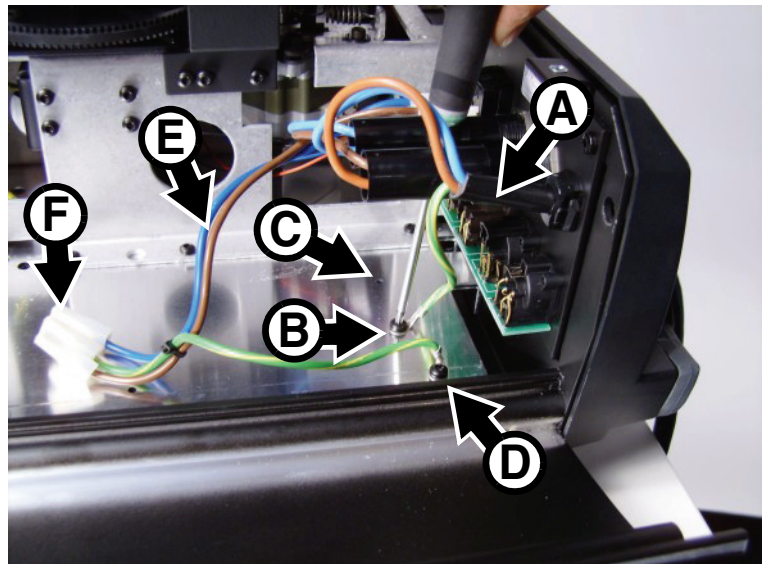
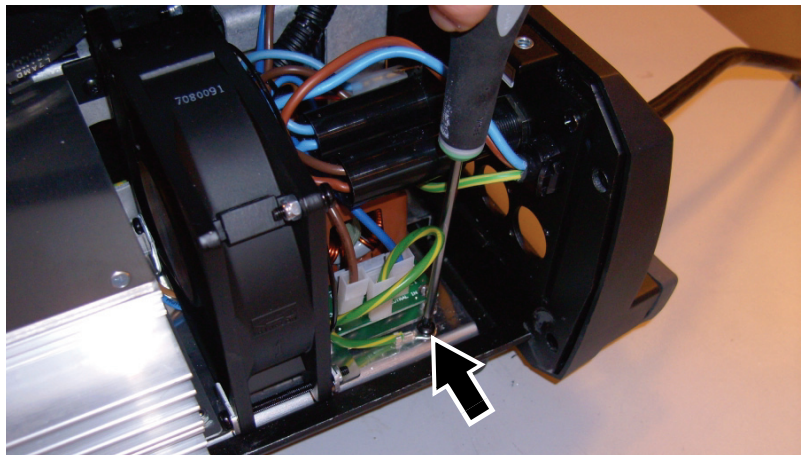

Figure 18
Figure 36
19. See Figure 18. You must now relocate the mains input cable ground (earth) lead to make space for the new ballast. First, strip some of the outer insulation from the mains cable at **A**.
20. See Figure 18. Unscrew the Torx 20 screw **B** (P/N 08070701) that fastens the lead to the metal base plate. Throw this screw away. Move the mains input cable ground lead to the existing hole **C** in the base plate and fasten it to the base plate with one of the new Torx 20 screws, P/N 08070701, supplied in the Upgrade Kit (see “V” in Table 1). To make sure the lead does not foul the new ballast, fasten the screw with the lead trailing out towards the fixture's XLR connectors.
Warning! For safety reasons, the two ground (earth) leads – one from the fixture's mains input cable and one from the mains filter on the ballast assembly – shown at **B** and **D** in Figure 18 **MUST** be fastened to the base plate separately with two separate screws when the new ballast assembly is installed. **DO NOT** take a short-cut and use one single screw to fasten these two ground leads to the base plate together, or you will create a safety risk, void the product warranty and make the product illegal.
40. See Figure 36. Stand the fixture upright again and fasten the mains filter ground lead to the base plate, re-using the original screw in the hole arrowed in Figure 36 and shown at **D** in Figure 18 on page 10.